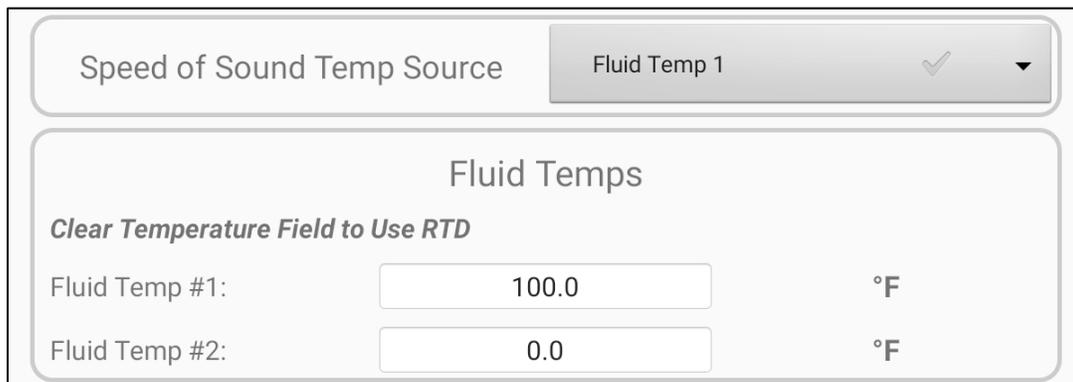

Figure 13: Estimated Operating Temp Example
- If no RTDs are connected to the SonoPro, values can be placed into the Fluid Temp #1 and #2 fields as an estimate of the fluid temperature. This will likely be less accurate than using RTDs as it is an estimate and not a direct measurement. An example of this is shown in Figure 13.